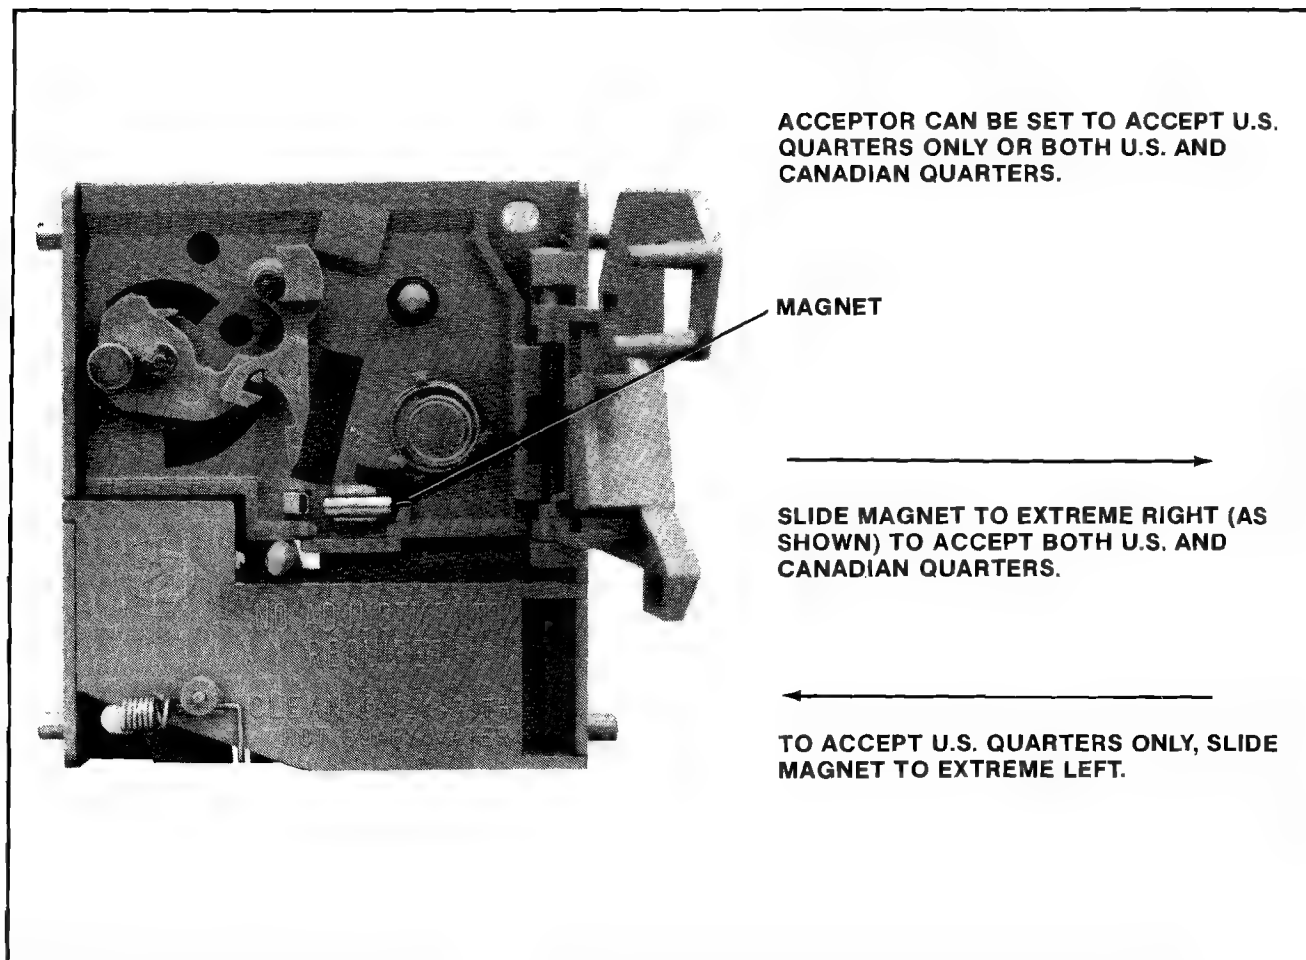

Figure 4-5 Changing the Plastic Coin Acceptor to Accept American or Canadian Quarters.
6. Reinstall the coin acceptor to the coin door. See Figure 4-5.